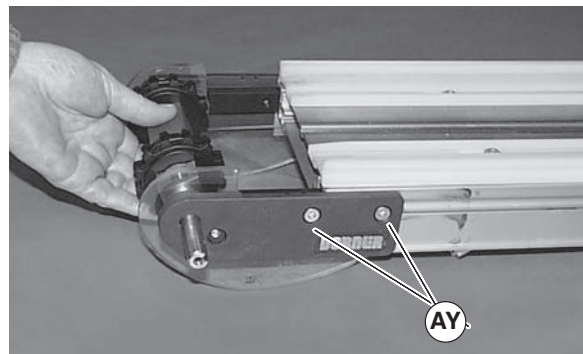

Figure 33
1. On side of conveyor, loosen two (2) fastening screws (Figure 33, item AY). Remove head plate and spindle at same time.